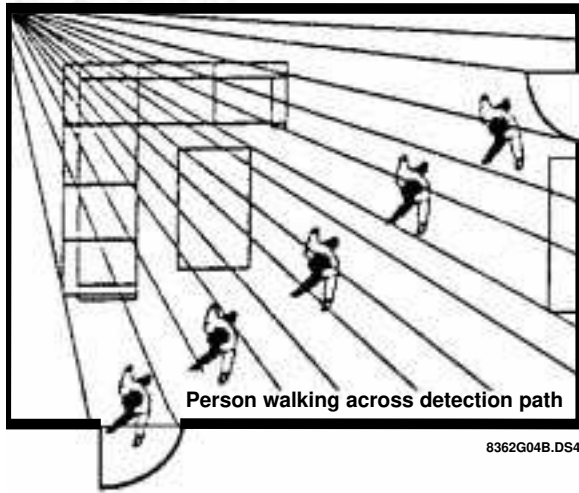

Figure 1. Overhead (Bird's Eye View) Detection Path
- Position the sensor to protect an area where an intruder would be most likely to walk *across* the detection pattern (see Figure 1).